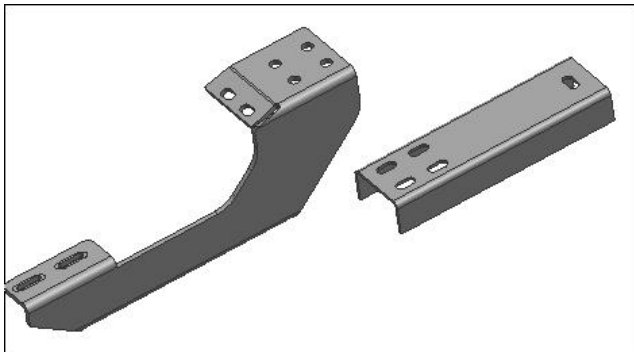

Fig 1
2. Select (1) Front Mounting Bracket and (1) Front Support Bracket, (**Figure 1**). Line up the (4) main mounting holes in both brackets and bolt the Support Bracket to the bottom of the Mounting Bracket with the included (4) M8 x 20mm Flange Hex Bolts and (4) M8 Locking Flange Nuts, (**Figure 2**). Do not tighten hardware at this time.